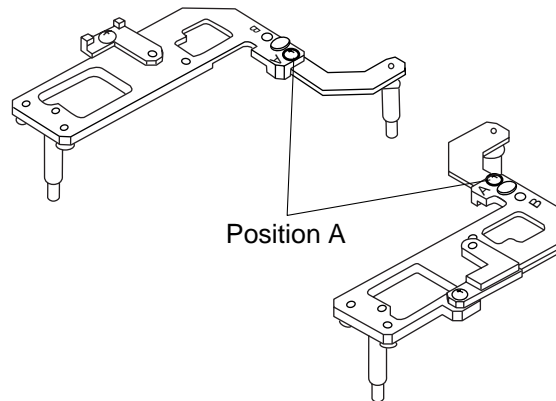

Figure 10-218
- 3) Extend the arm accommodated by the main frame unit it butts against the stopper as in Figure 10-218.